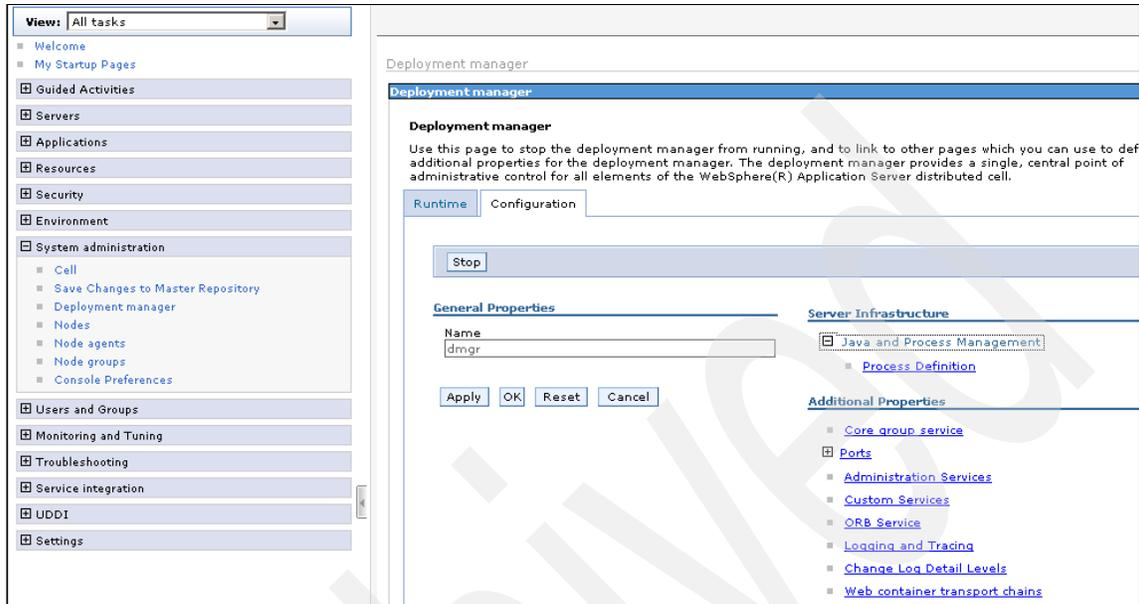

Figure A-7 Java and Process Management
- From the Server Infrastructure group, expand the **Java and Process Management** link. Click **Process Definition** (see Figure A-7).